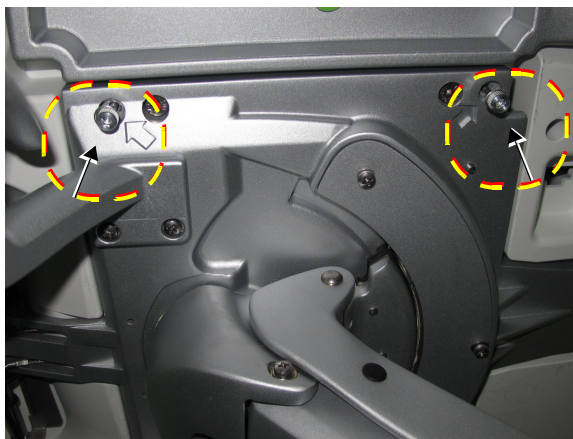

Figure 8-78 Loosening the Captive Allen Screws beneath Keyboard Assembly - Left Side
- 4) Loosen the two captive Allen screws on the *left* side, as shown in Figure 8-78 below (arrows marked in the figure indicate the screw locations).